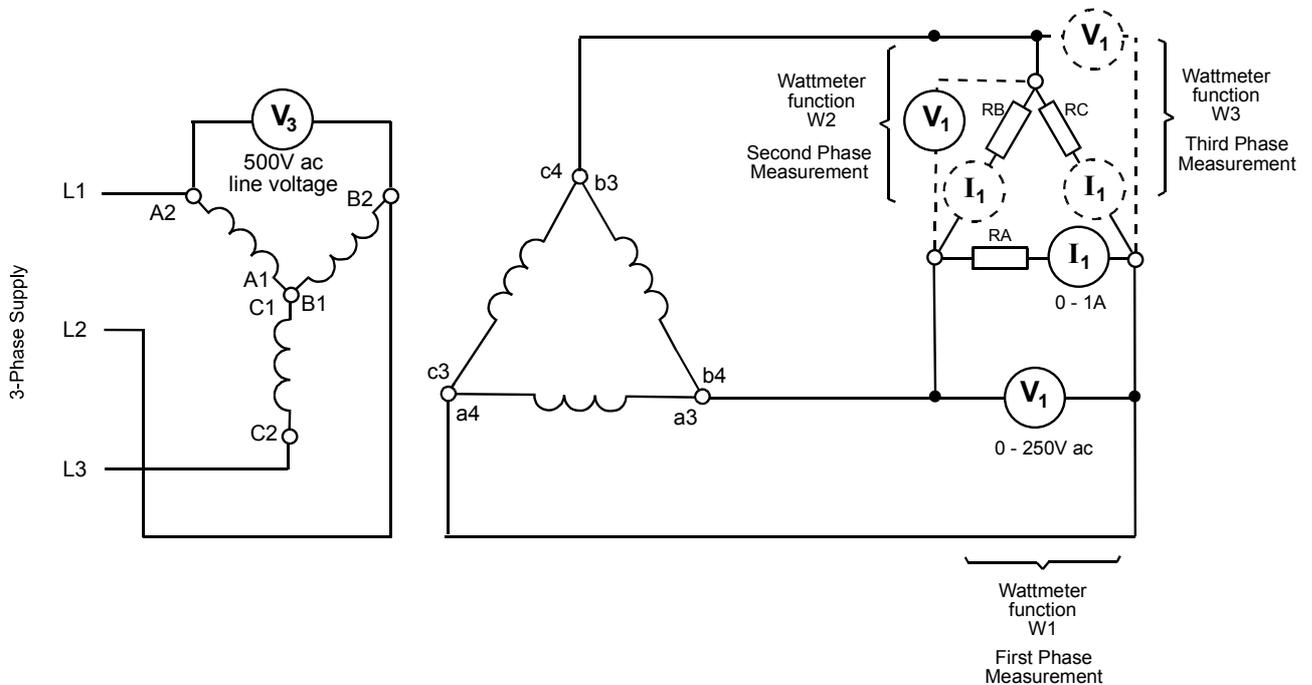
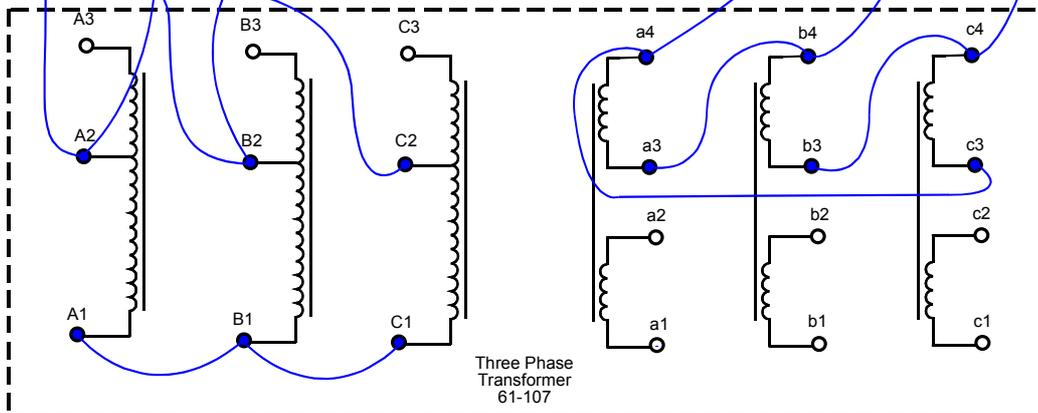

Figure 4-15-7
Figure 4-15-8: Practical 15.3 Circuit Diagram
Make up the connections shown in Figure 4-15-8. A simplified circuit diagram is shown in Figure 4-15-7. At this stage, V1 and I1 for the wattmeter should be connected in the load (A) secondary circuit shown in Figure 4-15-7 to monitor power (W1) in the resistor bank.
Connect the wattmeter V1 and I1 into the b3/b4 load (RB) circuit as shown in Figure 4-15-7 for the second measurement.
Connect the wattmeter V1 and I1 into the c3/c4 load (RC) circuit, as shown in Figure 4-15-7 for the third measurement.
Note: Meter connections are shown for the first phase measurement (see Figure 4-15-7). Second and third phase measurements are similar with exception that measurements are taken across the other two loads (see Figure 4-15-7).